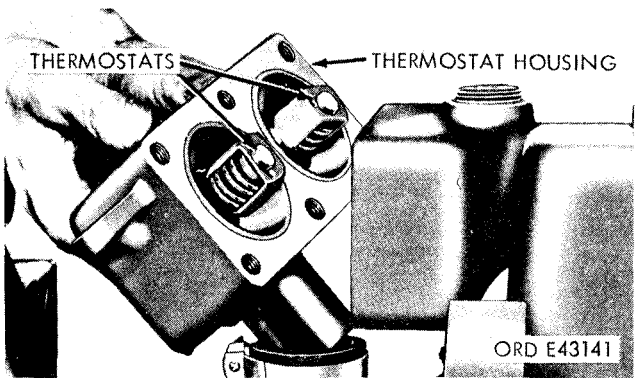

Figure 2-135. Removing thermostats—gasoline models.
- (5) Remove the six capscrews (fig. 2-135) and lockwashers at the front of the thermostat housing, and remove the housing from the bypass hose and from the radiator inlet hose. Remove and discard the thermostat housing-to-water outlet header gasket.
- (6) Pull the thermostats (fig. 2-135) from the housing.
- (1) Clean gasket surfaces on the thermostat housing (fig. 2-135) and water outlet header, and install a new gasket on the front of the header using a liquid type gasket cement.
- (2) Make sure that the rubber seals are in place on the two thermostats, and place the thermostats in the housing.
- (3) Slide the outlet on the front of the thermostat housing (fig. 2-135) into the radiator inlet hose. Slide the outlet on the bottom of the thermostat housing into the bypass hose. Position the thermostat housing at the front of the water outlet header, and install the six capscrews and lockwashers. Tighten the capscrews.
mostat housing (fig. 2-135) into the radiator inlet hose. Slide the outlet on the bottom of the thermostat housing into the bypass hose. Position the thermostat housing at the front of the water outlet header, and install the six capscrews and lockwashers. Tighten the capscrews.